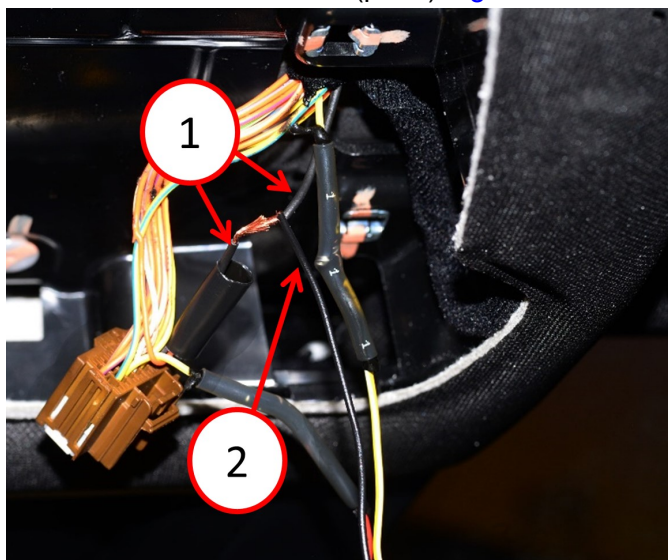

Fig. 6
13. Cut the dome lamp wire connector harness black wire (pin 2) Fig. 6.
14. Position heat shrink onto one of the black wires and connect all three black wires Fig. 6. **Do not heat the heat shrink tubing.**
15. Solder all three black wires from the jumper harness and the dome lamp wire harness black wire Fig. 6.